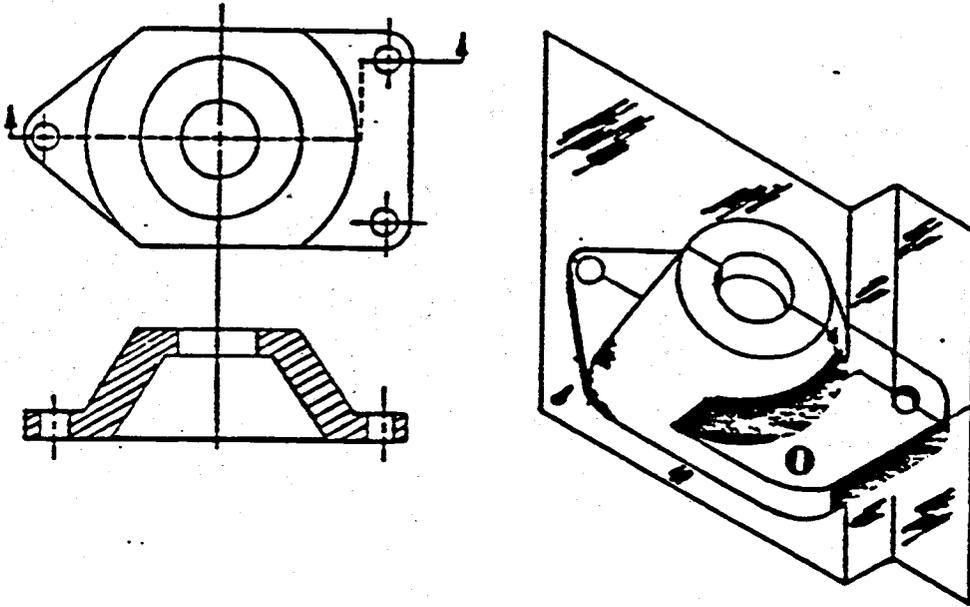

Fig 1-26. Offset section.
- (3) **Offset section.** A section view with a cutting plane that changes direction backward and forward (zig-zag), to show important features, is known as an offset section. The offset cutting plane in figure 1-26 is arranged to show the hole on the right side, in section. The sectional view is the front view, and the top views show the offset section plane line. Notice that there is no line on the section view at the point where the cutting plane goes straight back.